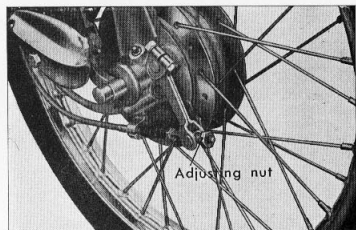

Figure 6-35. Adjusting front brake lever
- b. Adjustment is made by the adjusting nut. (Fig. 6-35)